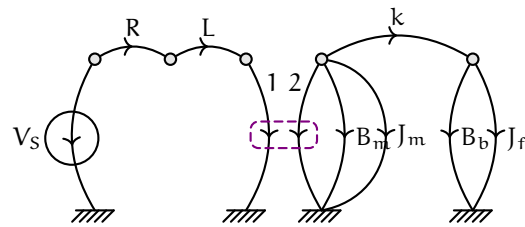

Figure exe.2: a linear graph model of the electromechanical system.
Consider the linear graph model of a motor coupled to a rotational mechanical system shown in Fig. exe.2. This is similar to the model from the Lec. emech.real, but includes the flexibility of the shaft coupler. An ideal voltage source drives the motor—modeled as an ideal transducer with armature resistance  $R$  and inductance  $L$ , given by the manufacturer in Table real.1. The ideal transducer’s rotational mechanical side (2) is connected to a moment of inertia  $J_m$  modeling the rotor inertia and damping  $B_b$  modeling the internal motor damping, both values given in the motor specifications. Take  $B_b = B_m$  and  $J_f = 0.324 \cdot 10^{-3} \text{ kg}\cdot\text{m}^2$ . Assume the shaft coupling has a torsional stiffness of  $k = 100 \text{ N}\cdot\text{m}/\text{rad}$ .